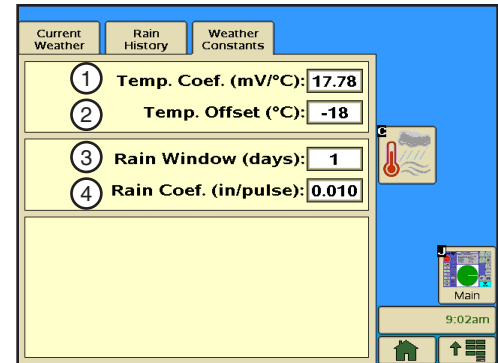

Figure 69-1 1. Temperature Coefficient Field
Push **Options**, **Wind/Rain/Temp**, **Weather Constants** to display the Weather Constants screen. Refer to Figure 69-1.
2. Using the numeric keypad, enter the number of days (0 - 10). Refer to Figure 69-1.
2. Using the numeric keypad, enter the Rain Coefficient Inches per Pulse (Rain Coefficient In/Pulse). Example: 0, ., 0, 1, 0 for 0.010. Refer to Figure 69-1.